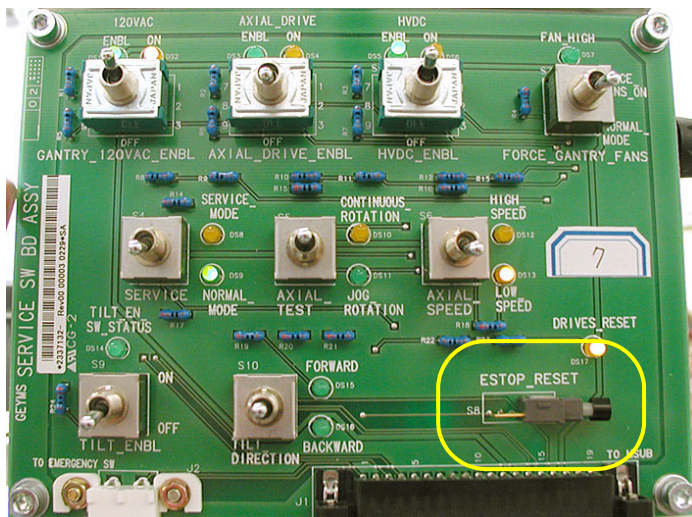

Figure 5-4 Service Switch Panel
- 5.) Push the Service Switch Panel reset button (see Figure 5-4).
- 11.) Press one of the **RESET** buttons to turn on X-RAY DRIVES POWER. (See Figure 5-4).